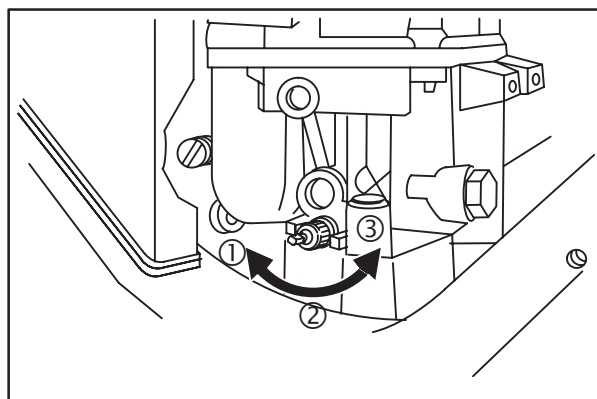

Fig. 11
4. Turn idle mixture screw slowly **CLOCKWISE** (1) until engine speed just starts to slow (LEAN mixture), **Fig. 11**.